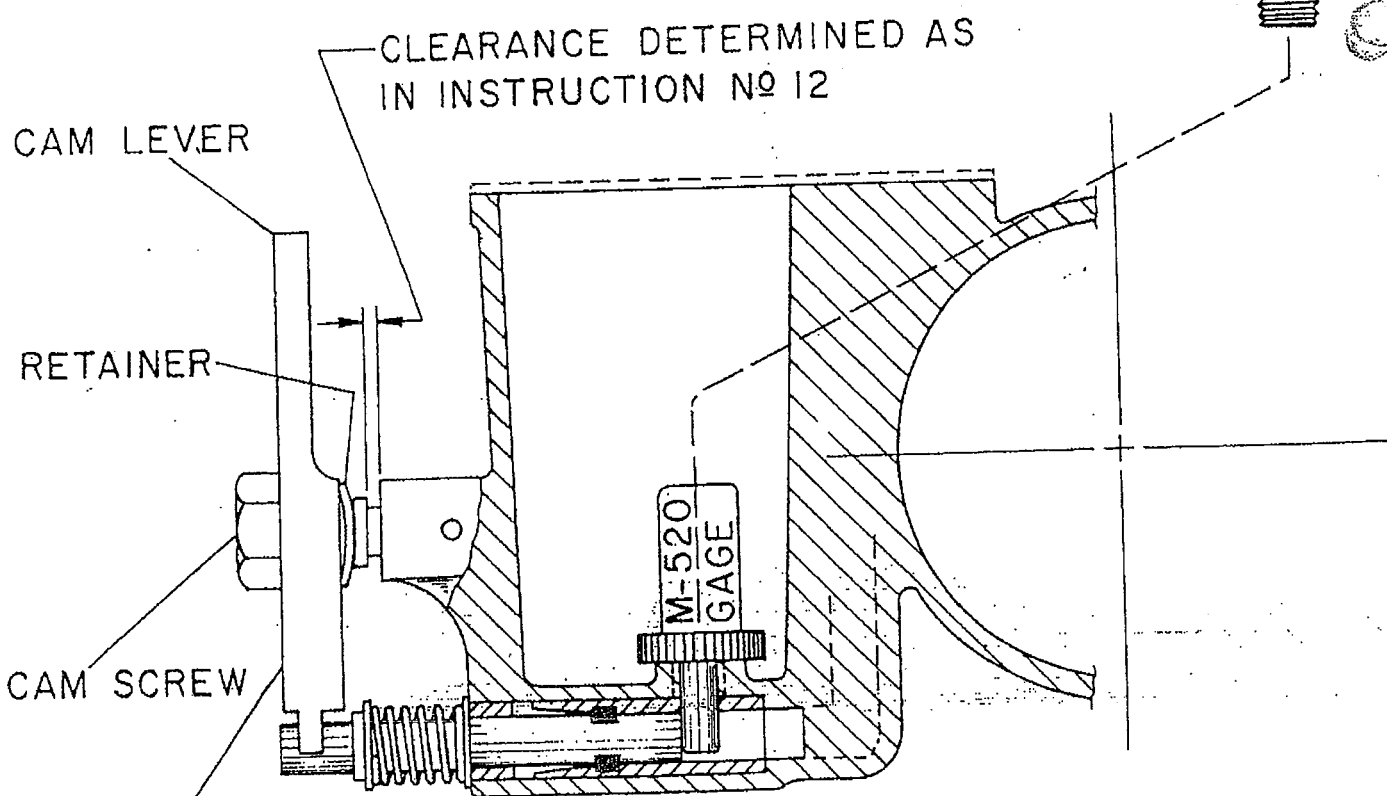

FIG. 2
- (4) Remove #155-657 cam lever, retainer and screw assembly. (See Fig. 2).
- (5) Remove #78-A127 retainer ring from screw and discard.
- (6) Remove #15-B120 screw from cam lever and discard.
- (7) Clean cam screw hole and cam surface of cam lever.
- (8) Add L. P. S. Aerosol Spray lubricant or equivalent to journal of new cam screw, assemble in cam lever and lubricate cam surface.
- (9) Assemble new #78-A127 retainer ring on #15-B120 cam screw.
- (12) Assemble #155-657 cam lever assembly in carburetor by turning the cam screw until the cut-off valve contacts the M-520 gage with the cam lever in full rich position (See Fig. 2).
- (13) Measure clearance between cam screw and cam screw boss with feeler gage.